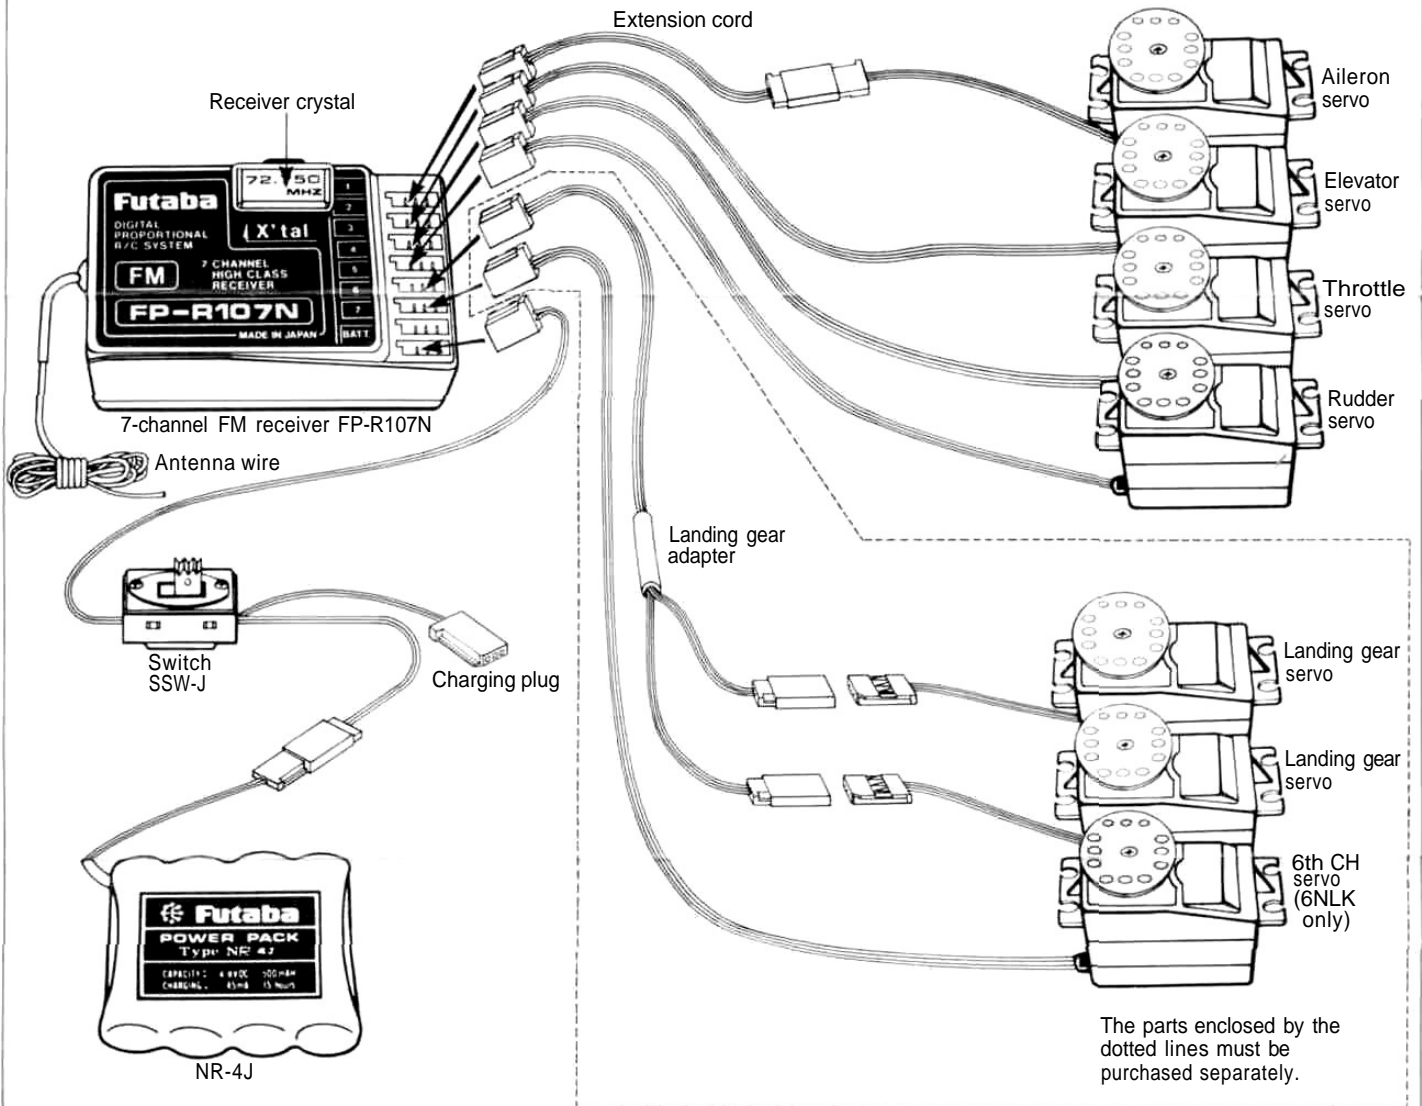

Fig. 9
- Connect the receiver, servos, switches, and battery firmly as shown in Fig. 9. Then extend the transmitter and receiver antennas fully.